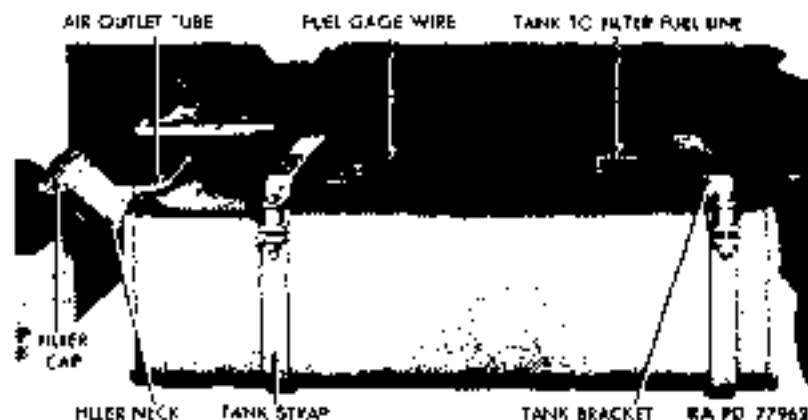

Figure 34 - Removing Fuel Tank Shield
(1) **DESCRIPTION** (fig. 34). The 60-gallon, welded sheet metal fuel tank is located outside the chassis frame ahead of the left rear wheel. It is supported by two cast brackets bolted to the frame side rail and extending out over the tank. It is secured to the brackets by two steel straps. The fuel outlet elbow and gage connection are on top of the tank, protected by a wood shield bolted to the brackets. A drain plug is located on the under side of the tank. A filler
## b. Maintenance (fig 34).
(1) Twist tank filler sleeve, and pull from filler neck at time of chassis lubrication. Clean sleeve with dry-cleaning solvent, and dry with compressed air. Install sleeve in filler neck, and check tightness of all strap and mounting bolts.
(2) During cold weather especially, always keep tank nearly full to reduce condensation. Whenever water appears in fuel filter or in fuel pump sediment bowl, remove drain plug from fuel tank. Catch gasoline in clean containers, and strain through a chamois skin or other filter which will remove water. Install drain plug, and refill tank.
(3) Remove gravel, stones, rust, scale, or other foreign matter from tank. **NOTE:** Foreign matter in tank is indicated by clogged tank to filter fuel line, rapid fouling of fuel filter, plugging of drain, or by noise in fuel tank. Remove tank (subpar. c, below). Twist tank filler sleeve, and pull from filler neck. Empty foreign matter from tank through filler neck, rinse tank with dry-cleaning solvent, and inspect for leaks or other damage. Replace tank if damaged. Install tank (subpar. d, below).
**4- TO 5-TON 4 x 4 TRACTOR TRUCK (AUTOCAR MODEL U-71447)****c. Removal (fig. 34).**